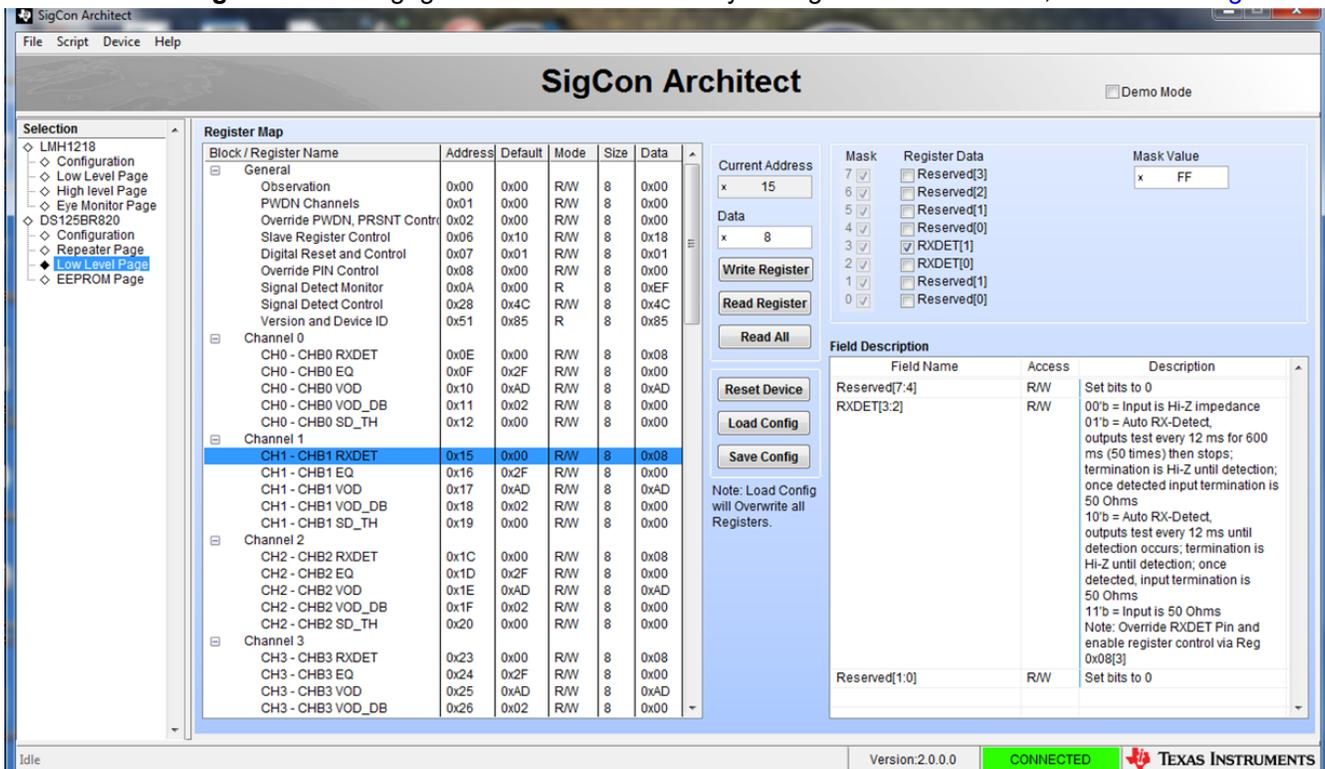

Figure 3. DS125BR820 Low Level Page
- **Low-Level Page:** You can engage in more advanced bit-by-bit register device control, as shown in Figure 3.